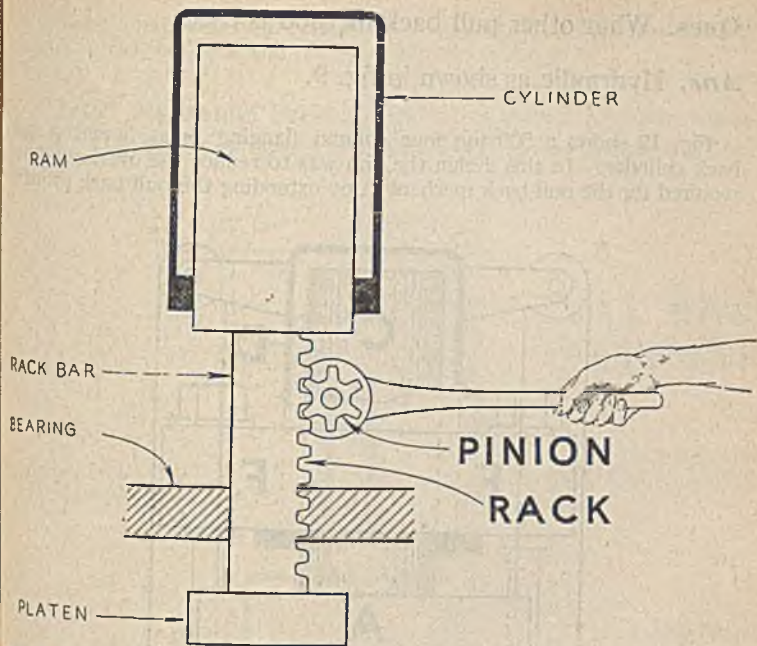

Fig. 6.—Elementary small inverted hydraulic press with rack and pinion pull back.
**Ans.** On some small presses of this type a manually operated rack and pinion pull back is provided as in fig. 6.